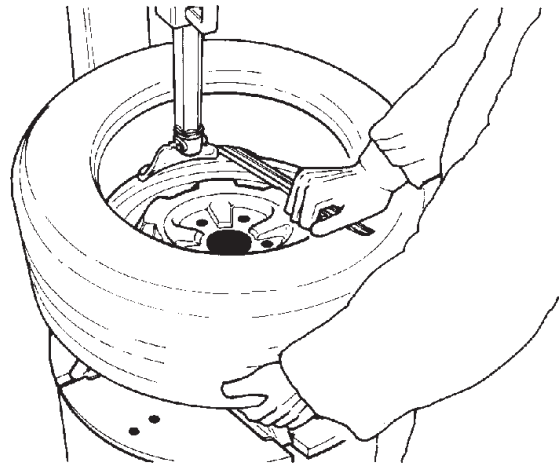

Fig. 4.1-8
H. Repeat the process for removing the lower bead. This time, lift the bead opposite to the mount/demount head to keep it in the drop center (Fig. 4.1-8).